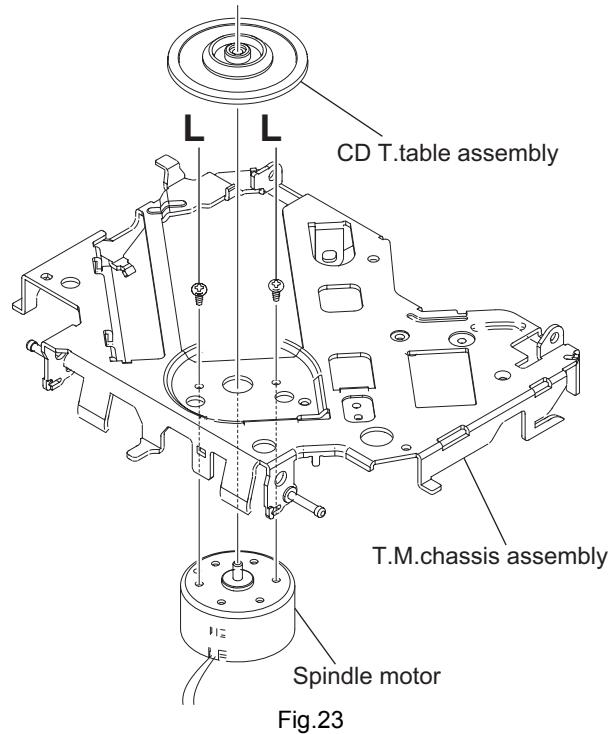

Fig.23
3.2.14 Removing the spindle motor (See Fig.23 and 24)
- From the top side of the T.M chassis assembly, remove the CD T.table assembly from the spindle motor. (See Fig.23.)
- Remove the two screws **L** attaching the spindle motor. (See Fig.23.)
- Take out the spindle motor from the bottom side of the T.M chassis assembly. (See Fig.23.)